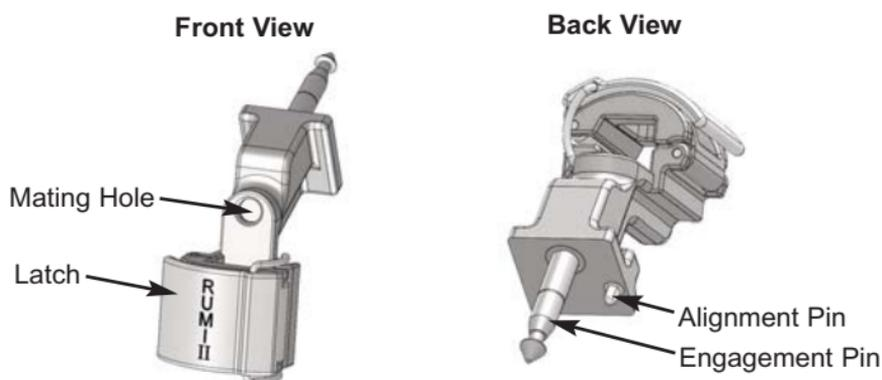

Figure 1. RUMI® II Adapter
2. Insert the Adapter's Engagement Pin (Figure 1) into the UPS arm's Mating Hole until secure. Use the Alignment Pin for proper orientation of the Adapter.